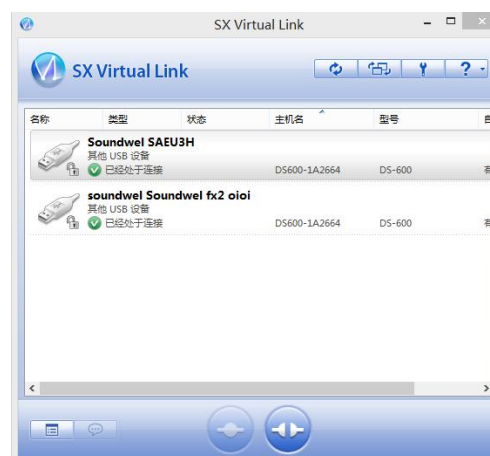

Fig. 4-8 Acquisition Board Connection status display
4) Turn on the power supply of the AE host. After the AE instrument is started and stabilized, the USB communication device nodes included in the AE instrument will be listed in "SX virtual link", as shown in Fig. 4-8. The number of devices displayed in the window is equal to that of USB connection and the number of AE acquisition boards + 1. The name of AE main board is "FX2 Oioi", and the name of AE acquisition board is "saeu3h". When all equipment status is "connected", the acoustic emission instrument can be used normally.